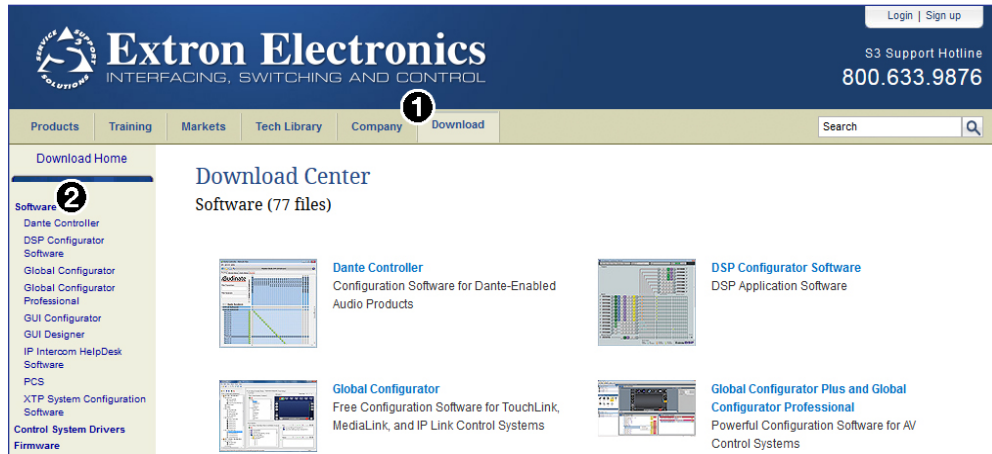

Figure 6. Software on the Extron Website
1. On the Extron [website](http://www.extron.com), click the **Download** tab (see figure 6, 1).
2. From the left sidebar, click the **Software** link (see figure 6, 2). A list of available software opens.
1. On the Extron website, click the **Download** tab (see figure 6, **1**, on the previous page).
2. From the left sidebar, click the **Software** link (see figure 6, **2**). A list of available software opens.